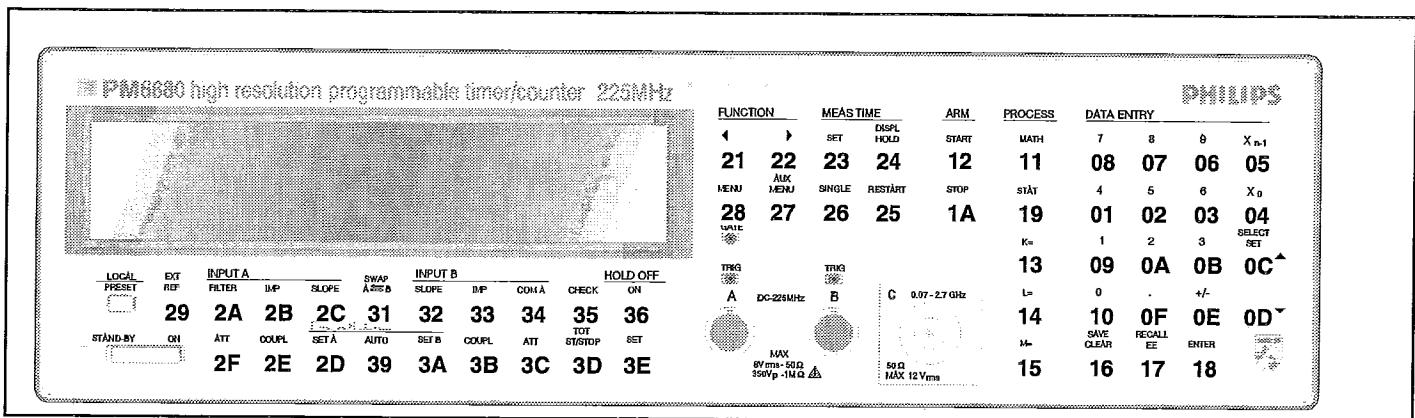

Fig. 5-13 Codes for each key, test 4.
- Press a pushbutton on the front panel and check that the displayed code are as in the fig. 5-13